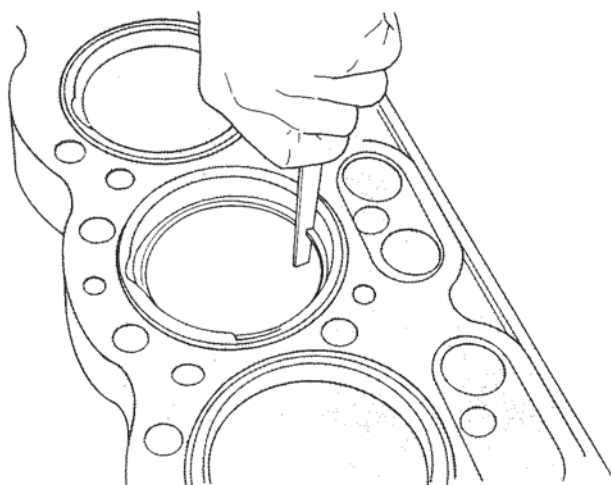

Figure 29. Measuring Piston Ring End Gap.
1. Check end clearance by placing ring in a new liner, push in with a piston to assure it is at right angle with liner. Measure end clearance with a feeler gauge. Figure 29.